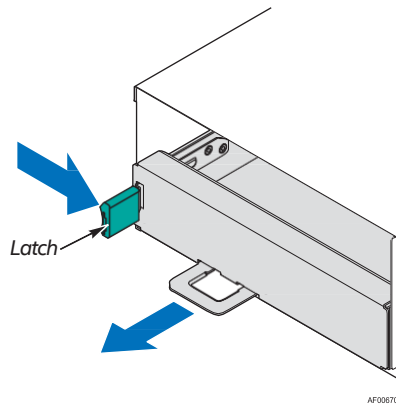

Figure 29. Removing the dummy tray cover
1. While pressing the latch, pull out the dummy tray cover (Figure 29).